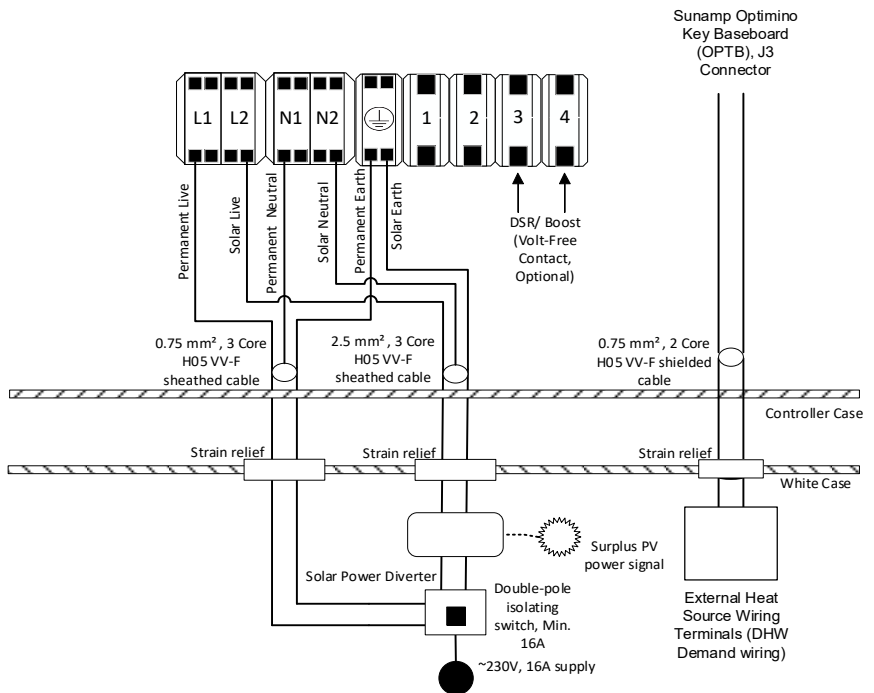

Figure 12 – Thermino xPlus Heat Battery wiring with solar power diversion
- With Solar Power Diversion follow (Section 6.4.2, Figure 12).
Potential dual-supply – Always isolate both supplies to the Heat Battery controller before working on the appliance. Ensure that Links 1 & 2 are removed (see Figure 12) and that the power diversion controller output is modulating AC.